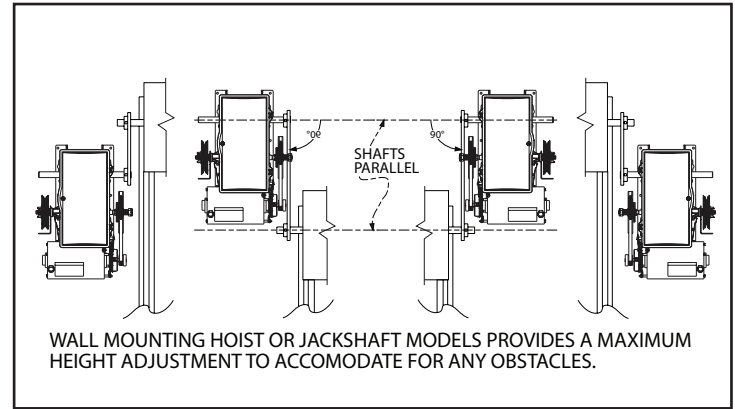

Figure 7
- 7) Raise or lower operator to remove slack from the chain. Be certain operator output shaft is parallel with door shaft. **Fig. 7.**